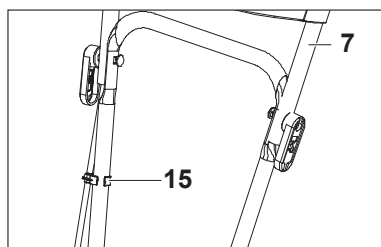

Fig. 5
- Fix the cord in the cord clip (15) (Fig. 5).